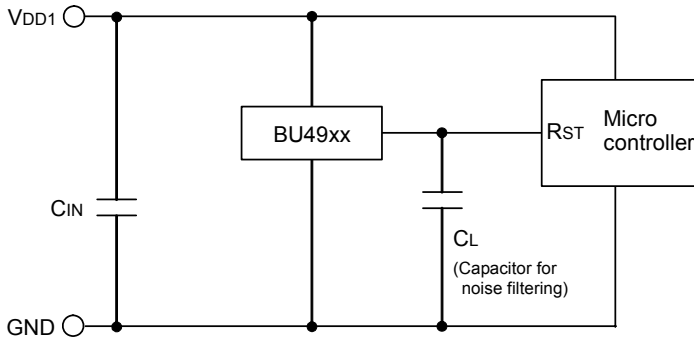

Fig.16 CMOS Output type
CASE2: The power supply of the microcontroller (VDD1) is same as the power supply of the reset detection (VDD1). Use CMOS output type (BU43xx series) or Open Drain Output Type (BU48xx series). Attach a load resistance (RL) between the output and VDD1. (As shown Fig.16)